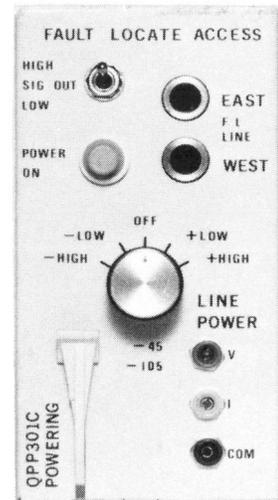

Fig. 7 — QPP301 Fault-Locate Access
7.01 Faulty LD-1 repeaters can be located through the QPP301 Fault-Locate Access circuit pack. The functions of the controls, indications, and test points are shown in Fig. 7. LD-1 fault-locate circuit descriptions are contained in 368-2101-103. LD-1 fault-locate procedures are contained in 368-2101-503.